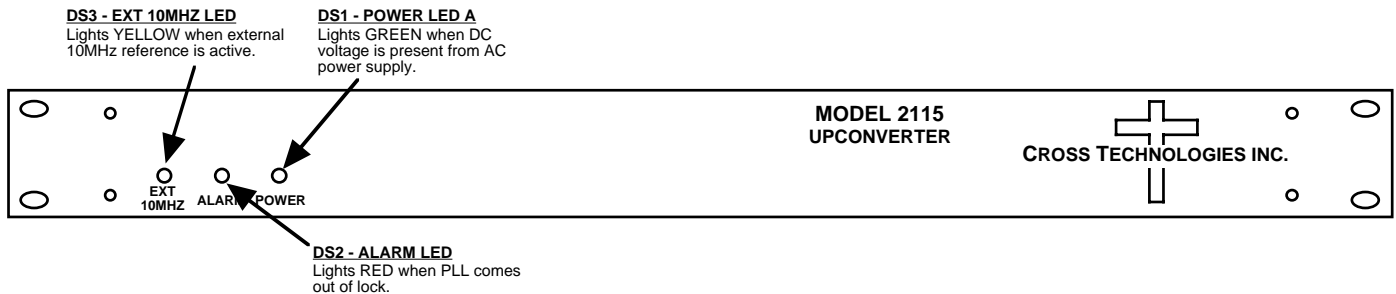

FIGURE 2.2 2115-139 Front Panel Controls and Indicators
4. Be sure DS1 (green, DC Power) is on and DS2 (red, Alarm) is off (Figure 2.2).
6. If EXT is selected or AUTO is selected and there is a 10MHz, 3 dBm signal at J2, check that DS3 (yellow, Ext 10MHZ) is on (Figure 2.2).